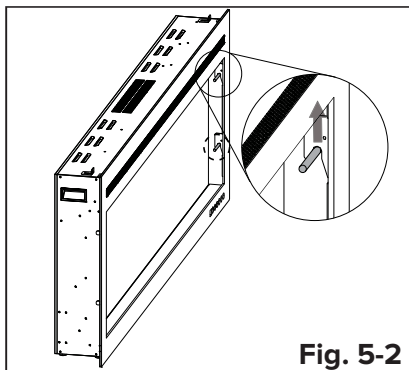

Fig. 5-2
**STEP B.** Carefully lift the front glass up and away from the appliance (Fig. 5-2 and 5-3). Place it face down on a soft, non-abrasive surface.